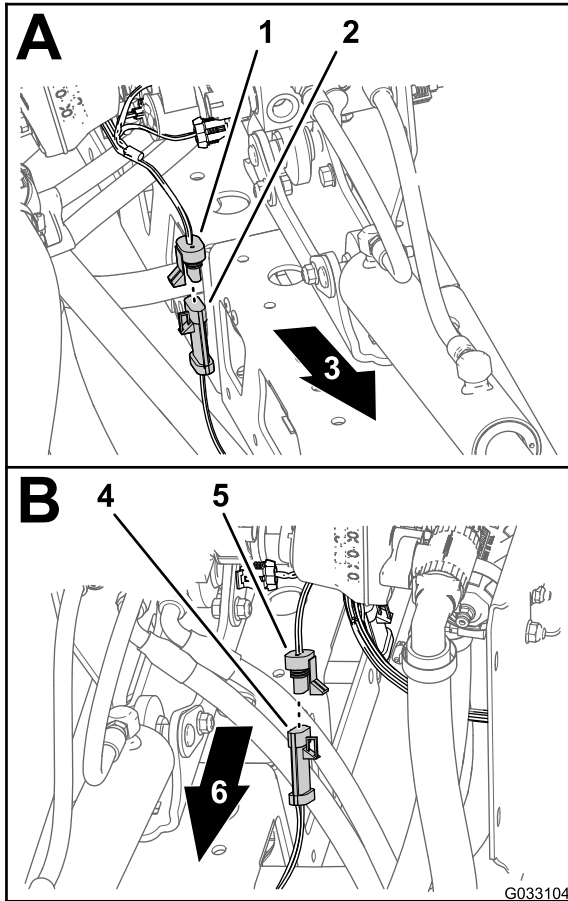

Figure 18
1. Disconnect the 3-socket connector of the sonic boom wire harness from the 3-pin connector of the cable for the right ultra-sonic sensor (Figure 18)
2. Disconnect the 3-socket connector of the sonic boom wire harness from the 3-pin connector of the cable for the left ultra-sonic sensor (Figure 18)